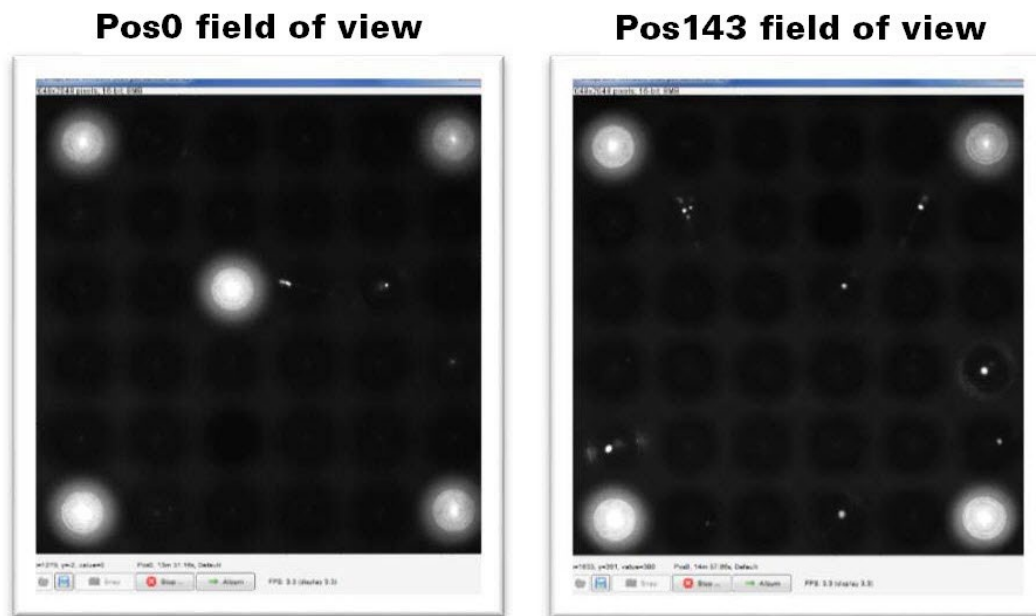

Figure 17. Multiwell images including fiducial-containing nanowells.
13. Confirm that five fiducial-containing wells are present, forming an "X" shape at Pos0 (Figure 17). There are four fields of view across an entire chip that include fiducial-containing nanowells (Pos0, Pos11, Pos132, and Pos143). Each field of view includes 36 nanowells (a 6 x 6 grid).
14. Select "Pos143" in the *Stage Position List* window and confirm that all 36 nanowells are properly captured in the image. There will be four fiducial-containing nanowells in the shape of a square, as shown in Figure 17 (above). Pos143 is located at the lower right corner of the stage fixture.